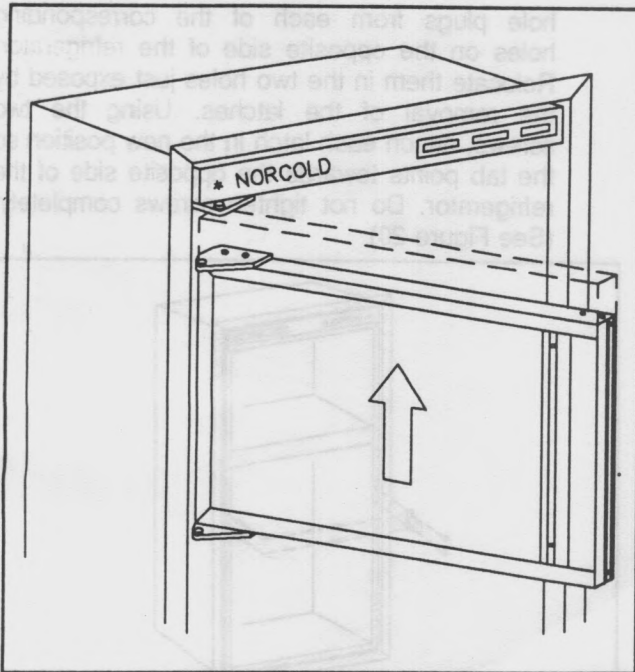

Figure 22
10. Reposition the upper door in a similar manner as described in Step #9, except the top of the door must be engaged into the hinge pin shoulder before setting the door in place. (See Figure 22)